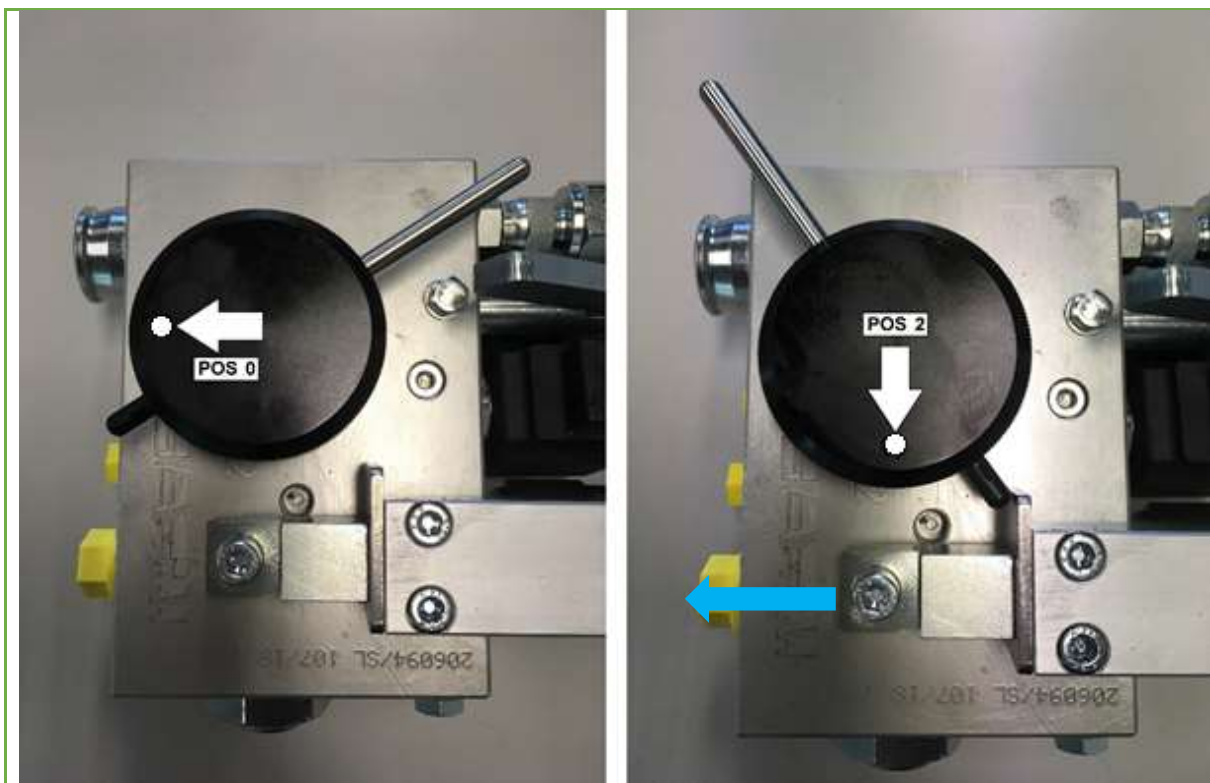

Figure 7-13: Positions of hydraulic brake valve with break-out device
5. Connect the supply line [3] to the tractor's supply line coupling. The selection button on the manifold block will automatically set itself to the zero position. Please refer to Figure 7-13.
The selection switch is automatically set to the zero position. Please refer to *Figure 7-13*. (Position 2 is used for the break-out safety cord).